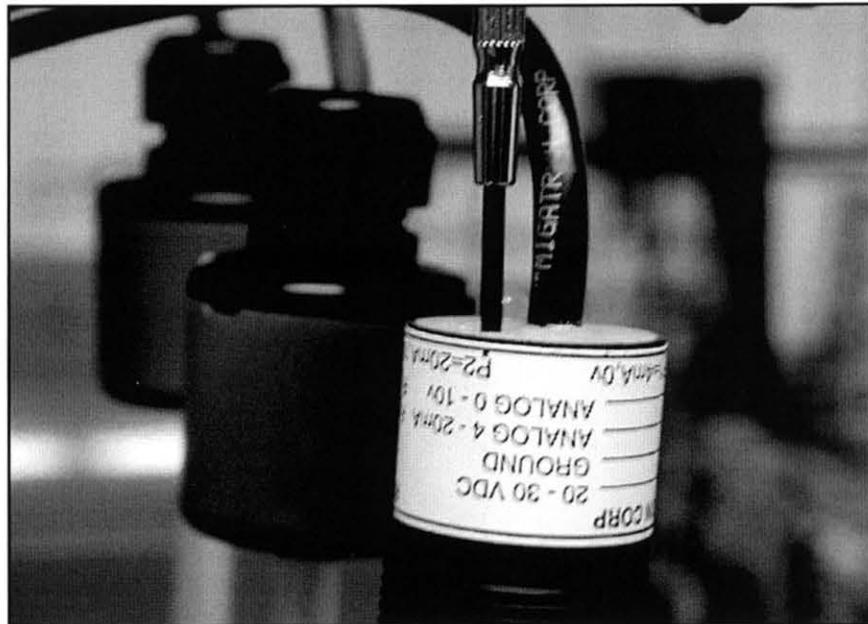

Figure 28. Adjustment of Potentiometer P2
- C. Use a precision screwdriver to adjust the P2 potentiometer on the top of the sensor, as shown in figure 28, until the display on the multimeter or loop calibrator indicates 4 mA.